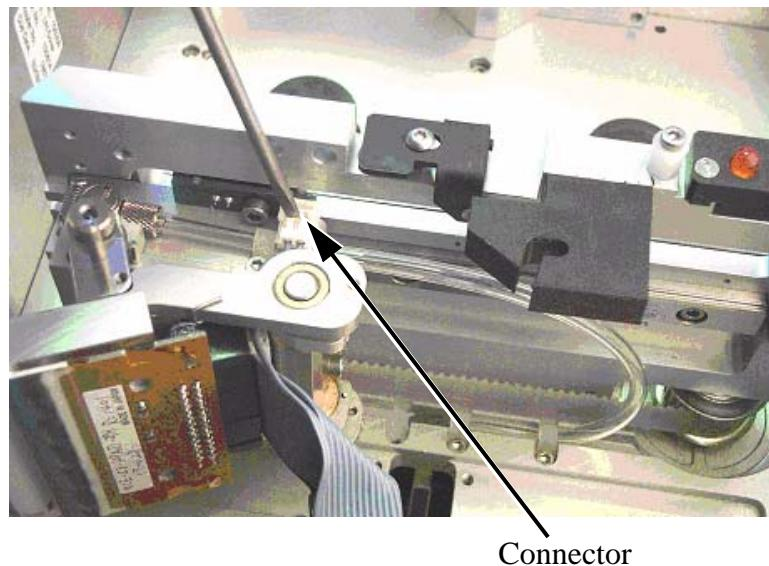

Figure 5-69: Connector Removal
- 3 Disconnect the receiver connector using a screwdriver as shown in Figure 5-69.